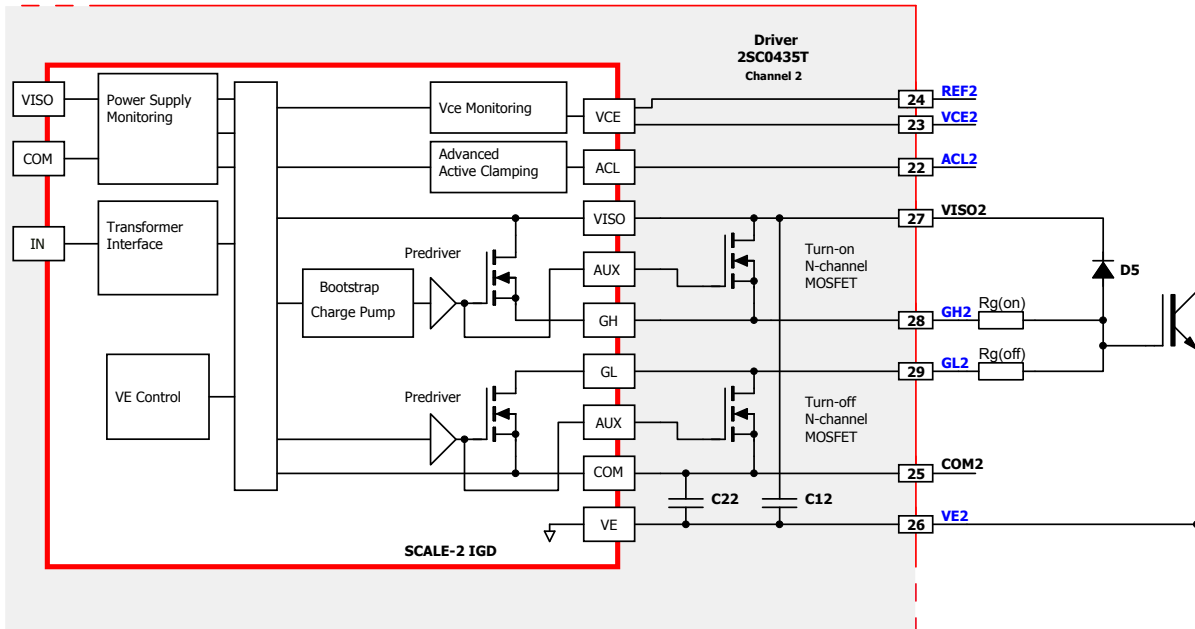

Fig. 21 Rail-to-Rail output and gate clamping (example with 2SC0435T)
CONCEPT SCALE-2 gate drivers use an N-channel output stage like that shown in Fig. 21. After charging the power semiconductor gate input, the voltage drop over the N-channel MOSFET is nearly zero. SCALE-2 drivers therefore feature rail-to-rail gate outputs.
A rail-to-rail output has several advantages in driving power semiconductors. The first one is that the VISOx voltage can be regulated to 15V. By using a Schottky diode (D5 in Fig. 21), the gate voltage is clamped to the regulated 15V. This avoids an increase of the external gate-emitter voltage and consequently lowers the IGBT short-circuit current ISC and energy, as the former is highly dependent on the gate-emitter voltage VGE:
With the use of  $D_5$  in Fig. 21 the current  $I_g$  will charge the blocking capacitors  $C_{12}$  and  $C_{22}$ . The voltage over  $C_{12}$  and  $C_{22}$  will generally remain low. A parasitic turn-on of the power semiconductors is therefore not possible. This function can be also used for STO (Safe Torque Operation).
- 1) Connect the secondary-side terminals COMx and VEx together. This must be performed with the driver power supply turned off. Otherwise the secondary ASIC IGD may be damaged. The blocking capacitor  $C_{12}$  on Fig. 21 may be used if required. The blocking capacitors  $C_{22}$  of Fig. 21 are no longer required as they are short-circuited.